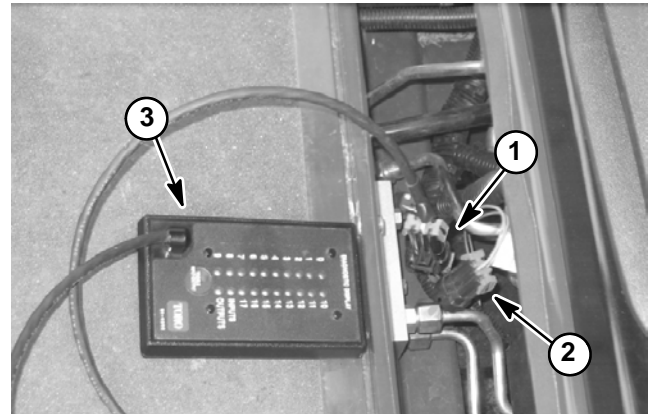

Figure 11
2. Remove plate in front of seat to allow access to wire harness loop back connector. Locate wire harness and loop back connector (Fig. 11). Carefully unplug loop back connector from harness connector.